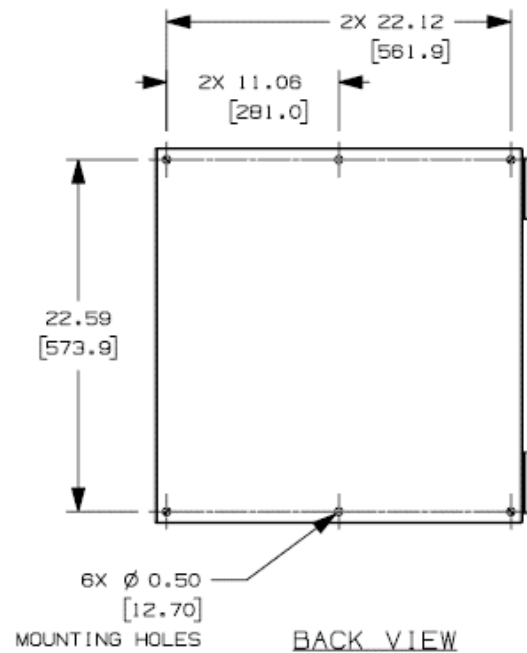

Figure 4: IDF Wall Section Mounting Holes
- Following the Hoffman Installation Guide, mount the enclosure in the desired location using the 6 holes on the wall section of the enclosure, refer to Figure 4. Reference the part drawing for the area required to fully open the enclosure.